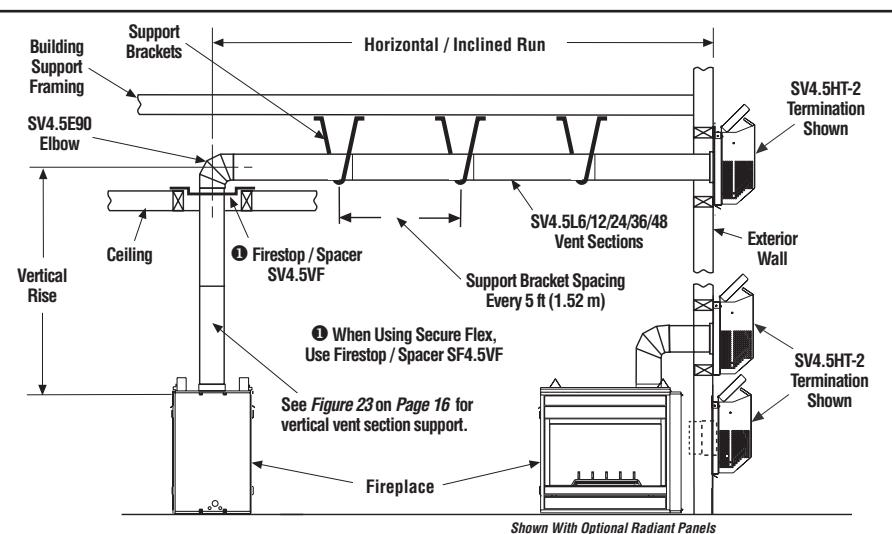

Figure 33 -TYPICAL HORIZONTAL VENT INSTALLATION
Figures 33, and Figures 36 to 41 on Pages 25 to 27 and their associated Horizontal Vent Table illustrate the various horizontal venting configurations that are possible for use with these appliances. **Secure Vent®** pipe applications are shown in these figures; **Secure Flex®** pipe may also be used. A Horizontal Vent Table summarizes each system's minimum and maximum vertical and horizontal length values that can be used to design and install the vent components in a variety of applications.
I. Continue installation of horizontal/inclined sections - Continue with the installation of the straight vent sections in horizontal/inclined run as described in **Step E**. Install support straps every 5 ft. (1.52 m) along horizontal/inclined vent runs using conventional plumber's tape. **See Figure 33, it is very important that the horizontal/inclined run be maintained in a straight (no dips) and recommended to be in a slightly elevated plane, in a direction away from the fireplace of 1/4" rise per foot (20 mm per meter) which is ideal, though rise per foot run ratios that are smaller are acceptable all the way down to at or near level. Use a carpenter's level to measure from a constant surface and adjust the support straps as necessary.**